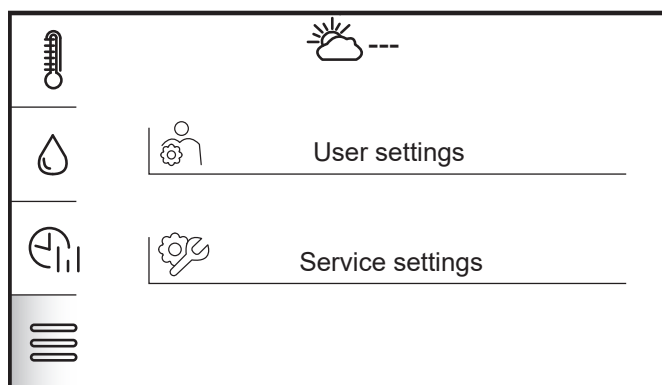

Figure 10-4: Settings selection
1. When the heating circuit control interface is shown (see Figure 7-1), tap settings menu. Refer to Table 7-1 and Figure 10-4.